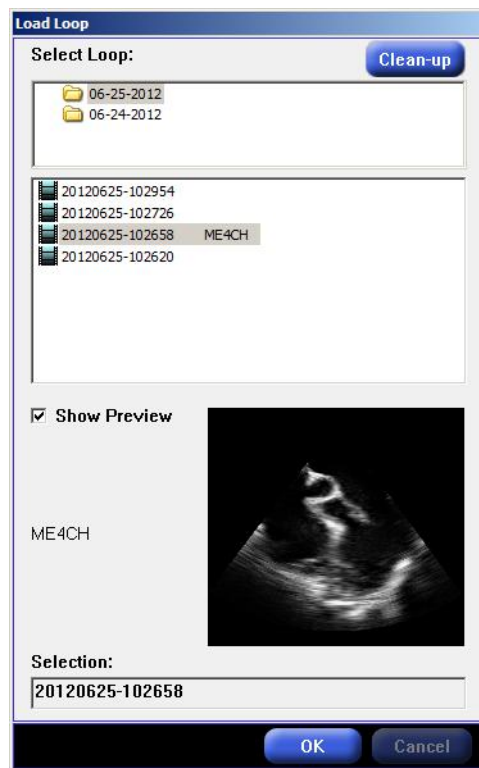

Fig. 52 Load cineloop windows
- 6 Tap or click once on the desired cineloop. If the Show Preview option is checked, the cineloop is displayed in the lower right of the Load Loop dialog window, along with comments and hTEE measurements. See Figure 52.